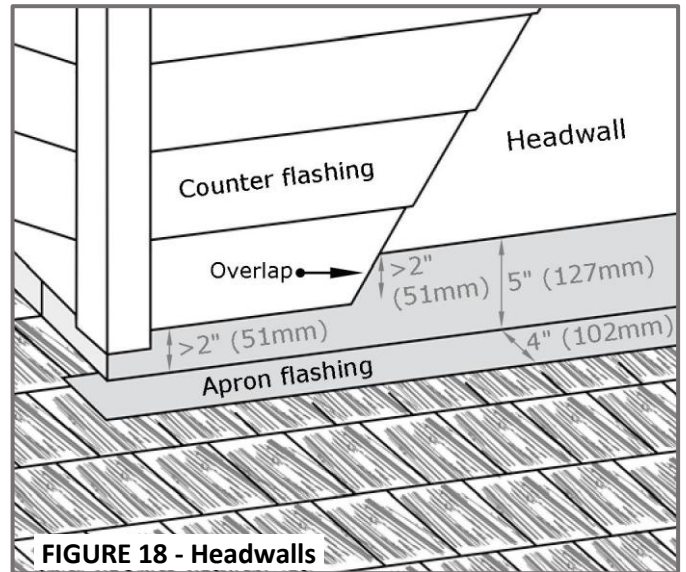

FIGURE 18 - Headwalls
- Install an apron flashing at least **5" (127mm)** up the headwall and extending at least **4" (102mm)** down the roof. Nail apron flashing to the roof deck only and seal to shingles with F-WAVE approved sealant and adhesive (see **Table 1**). Do not nail the apron flashing to the wall. Instead, secure with siding material (counter flashing) over the top. Terminate counter flashing at least **2" (51mm)** above the roof and overlap the apron flashing by at least **2" (51mm)**. See **Figure 18**.